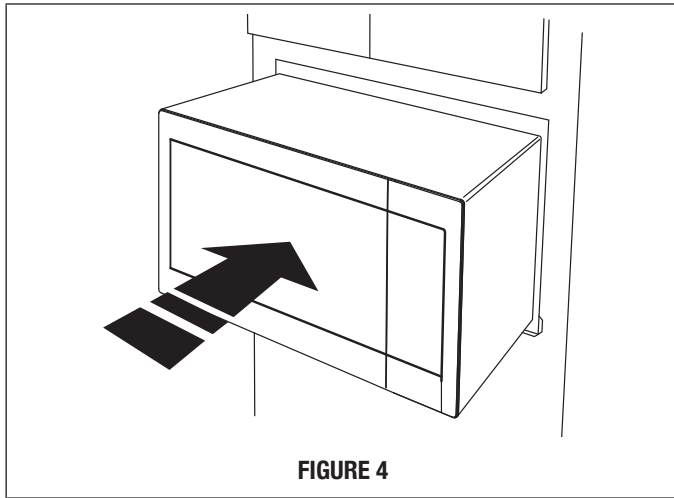
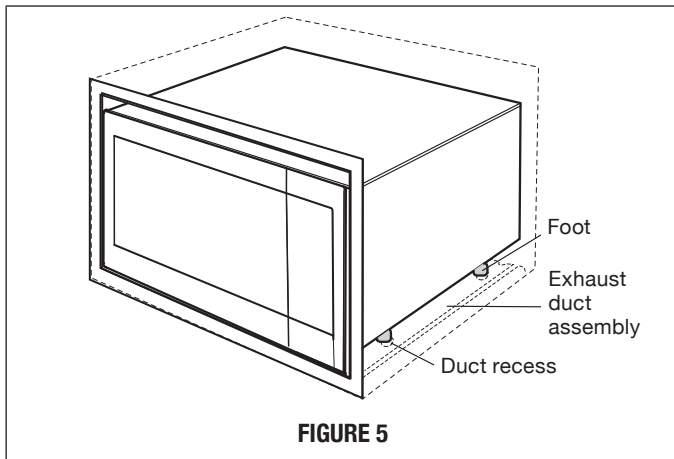

FIGURE 4
FIGURE 5
2. Carefully guide the assembled oven into the prepared opening. Slide the oven onto the EXHAUST DUCT ASSEMBLY. See Figure 4. Avoid pinching the cord between the oven and the wall. Adjust the position of the oven so that the feet of the oven are fitted into the recesses of the EXHAUST DUCT ASSEMBLY and the door opens properly. See Figure 5.